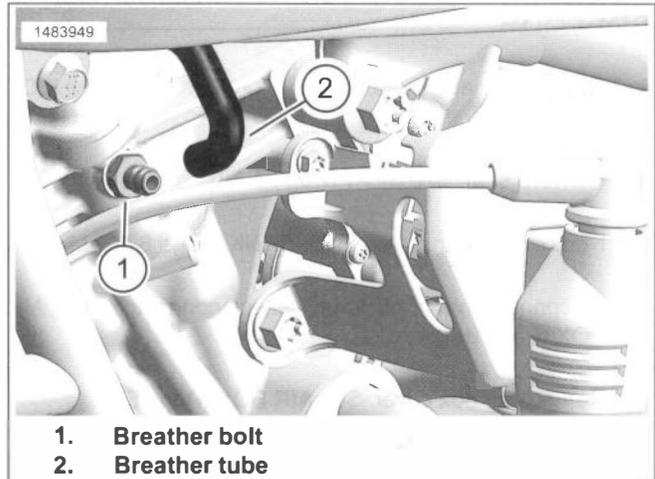

Figure 6-5. Breather Tube
- a. See Figure 6-5. Remove breather tube (2) from front cylinder head breather bolt (1).
- a. See Figure 6-5. Install breather tube (2).